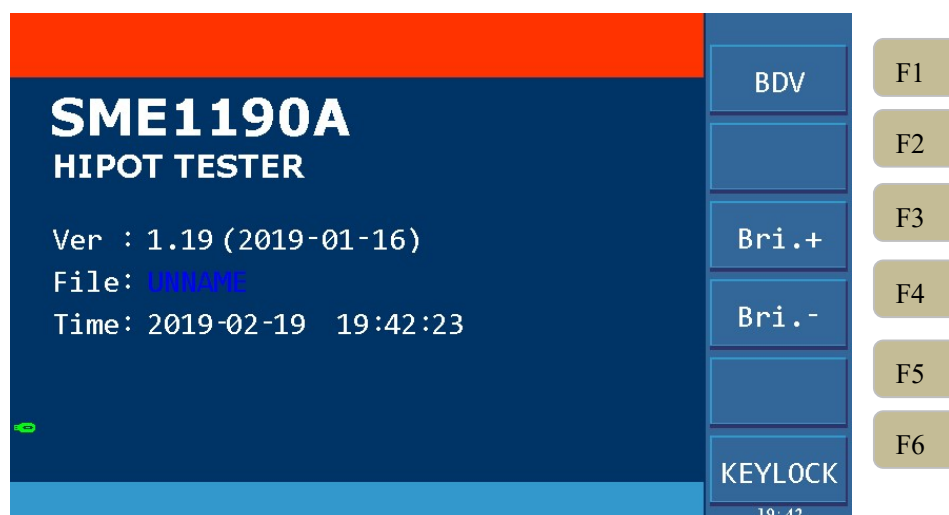

Figure 4-21
1. On the non-TEST page, ie. SYSTEM or SETUP interface, press **【STOP】** to enter the interface shown in Figure 4-21.